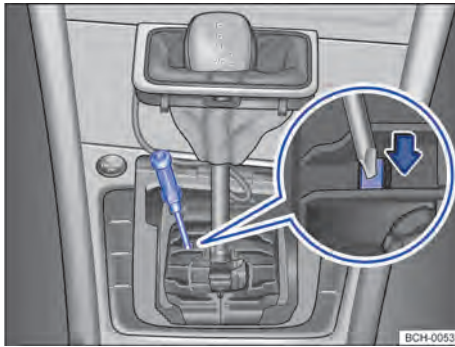

Fig. 94 Remove the selector lever cover and manually emergency unlock the selector lever lock.
- With the help of a screwdriver carefully press the release lever in the direction indicated by the arrow and keep it in that position → Fig. 94.